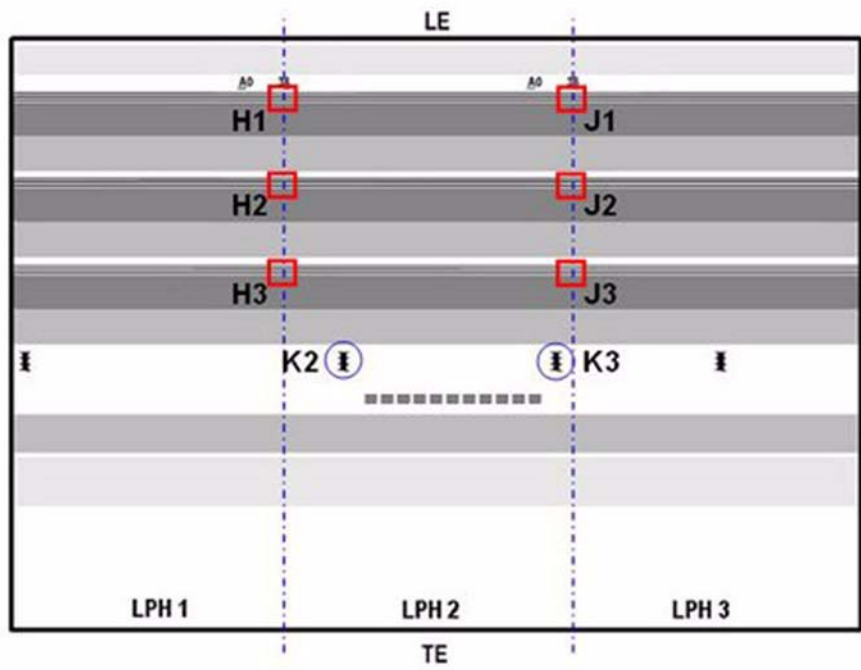

Figure 5 LPH Timing Check Locations
1. Check the alignment of the thin horizontal lines at **H1**, **H2**, and **H3** on the test pattern (refer to Figure 5). If the LED Print Heads are not correctly timed, the thin horizontal lines at the checked locations will be offset from each other.